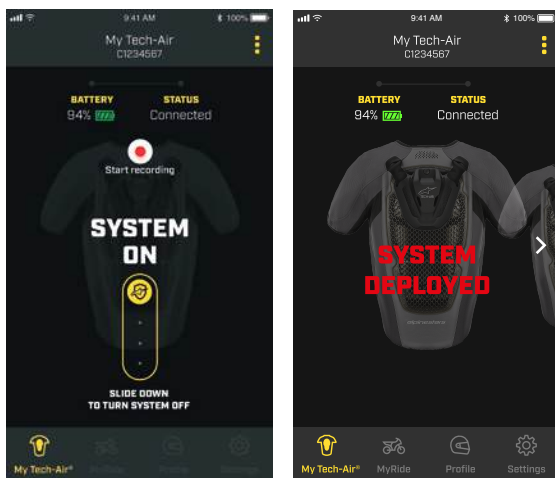

Figure 12
While riding "System On" mode is active and, accordingly, for safety reasons, the user cannot access most of the App functions. In case the System needs to be disabled by the user, such as during a heavy off-road riding session, the System can be turned off using the slide icon on the App (as shown in Figure 12). To reactivate open and close the Front Flap (2).
The App will inform the user when there's only one deployment left before the mandatory full service. In case of deployment, the App will show the relevant status as depicted in Figure 12.